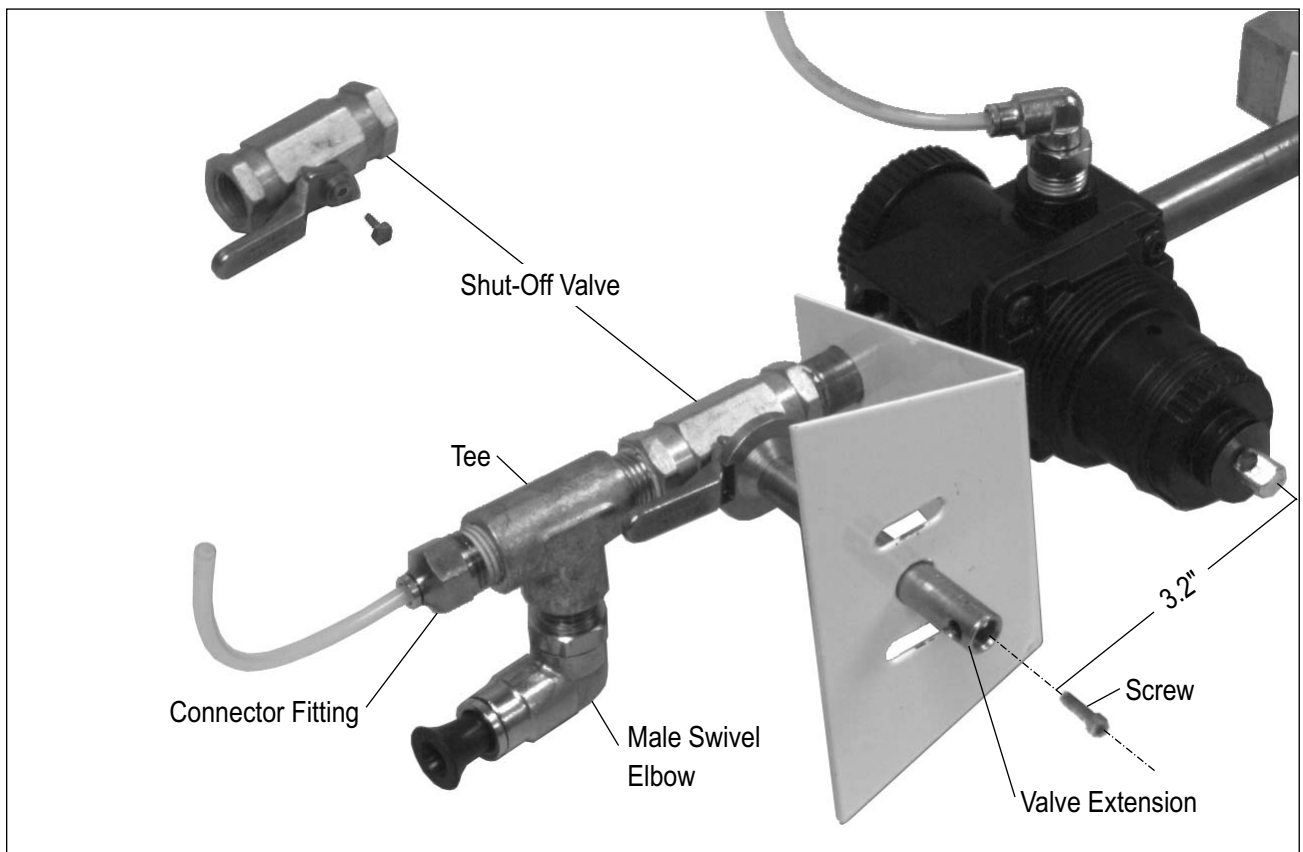

Figure 23
(Figure 23):
1. Secure shut-off valve (13) in soft-jaw vise.
2. Remove tee (16) along with male swivel elbow and connector fitting. Clean threads of tee.
3. Remove shut-off valve from vise. Secure pressure regulator (9) in soft-jaw vise exposing shut-off valve.
4. Use pipe wrench to secure pipe nipple (10) and turn shut-off valve in counterclockwise rotation until it disengages. Clean threads of pipe nipple.
5. Remove valve extension (14) from valve by inserting long 3/32" Allen wrench into shaft of extension and backing off screw (15) until extension disengages.
7. Apply pipe sealant to threads of pipe nipple. Reinstall replacement valve with attached extension onto pipe nipple. Refer to Figure 23 for correct orientation.
8. Apply pipe sealant to threads of tee. Reinstall tee into shut-off valve. Refer to Figure 23 for correct orientation.